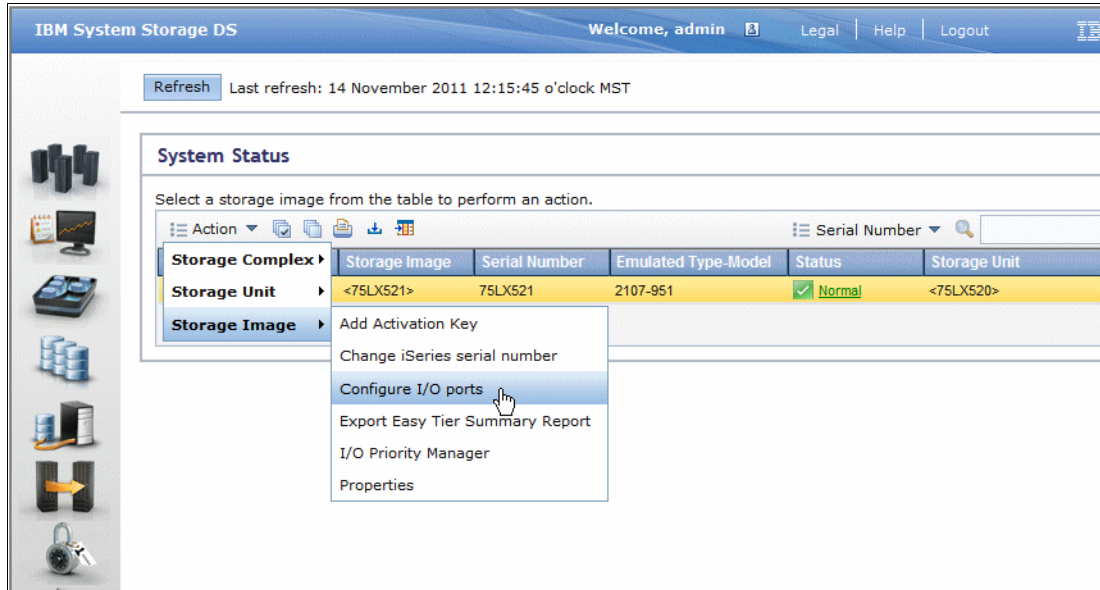

Figure D-4 DS8000 GUI System Status window
- On the System Status window, Figure D-4, select the storage image for which you want to configure the ports by clicking the corresponding row. The selected row is highlighted in yellow.